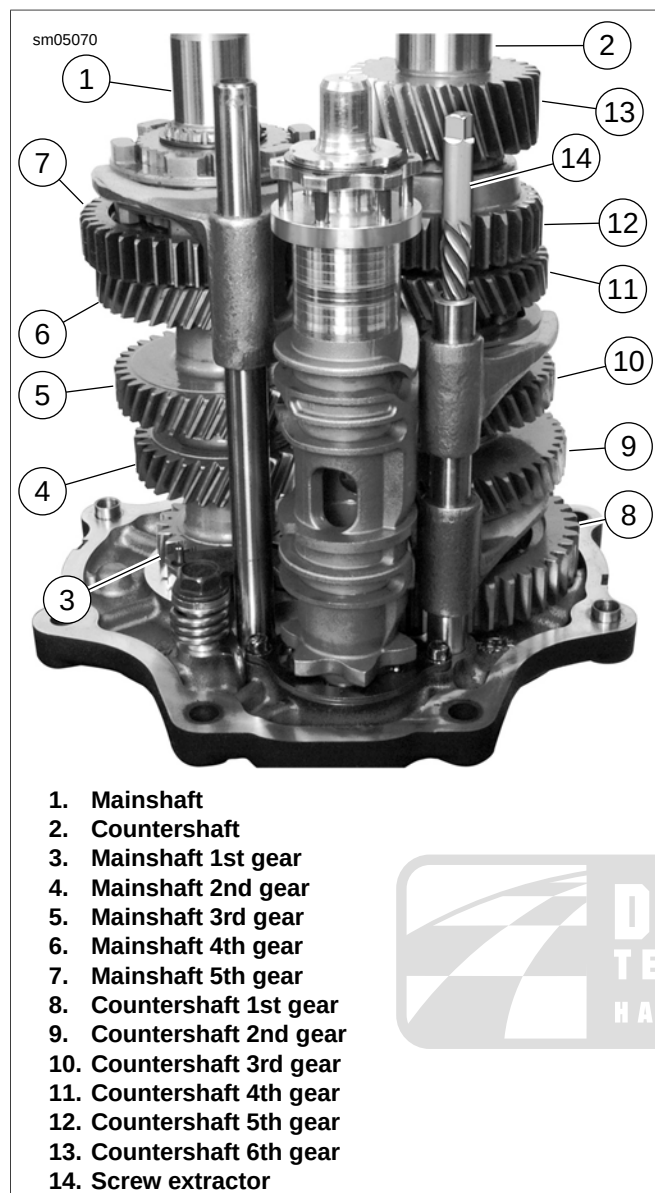

Figure 6-12. Gear Set
- See Figure 6-12. With side door on end (shafts pointing upward), remove shift fork shafts using easy-out screw extractor (14) (non-flute design). Shafts have slight interference fit. Shafts can be reused, do not damage end of shaft. Mark end of shaft so same end can be reinserted during reassembly.